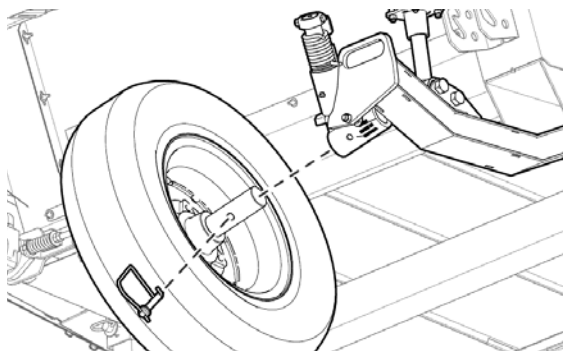

Fig. 36 - Install Wheels on Gauge Wheel Brackets
3. Install the wheels on the gauge wheel brackets on the rear of the header (if equipped) as shown in Fig. 36 on page 30, otherwise place the tires in a secure storage location.